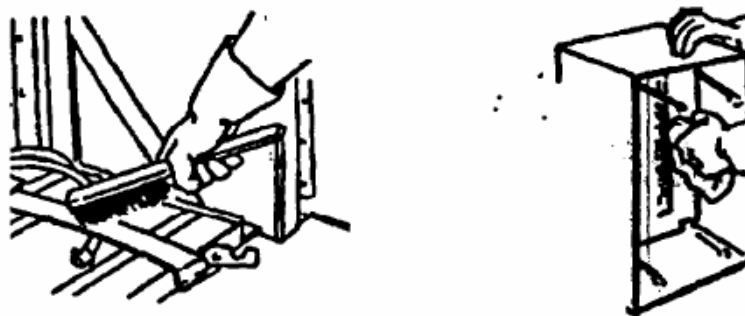

Figure 3-12
- (2) Soak the cleaned battery hold downs in a tub of water mixed with 2 pound of baking soda (Item 14, Appx. C) to each gallon of water. Rinse hold downs thoroughly. Apply epoxy coating, (Item 3, Appx. C) to hold downs. If that coating is not available, use bituminous coating (Item 4, Appx. C).
- (3) Thoroughly wash the battery tray or battery box and other nearby metal parts that are corroded, using a water baking soda solution (See Figure 3-12). Thoroughly rinse and dry these parts. Apply a 1/32 to 1/8 inch thick epoxy coating (Item 3, Appx. C) to these parts using one of the coating compounds above.